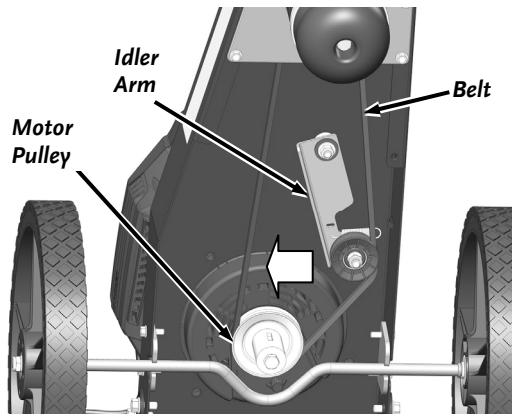

Figure 15
4. Move the Idler Arm away from the Belt and lift the Belt off the Idler Pulley (**Figure 15**).